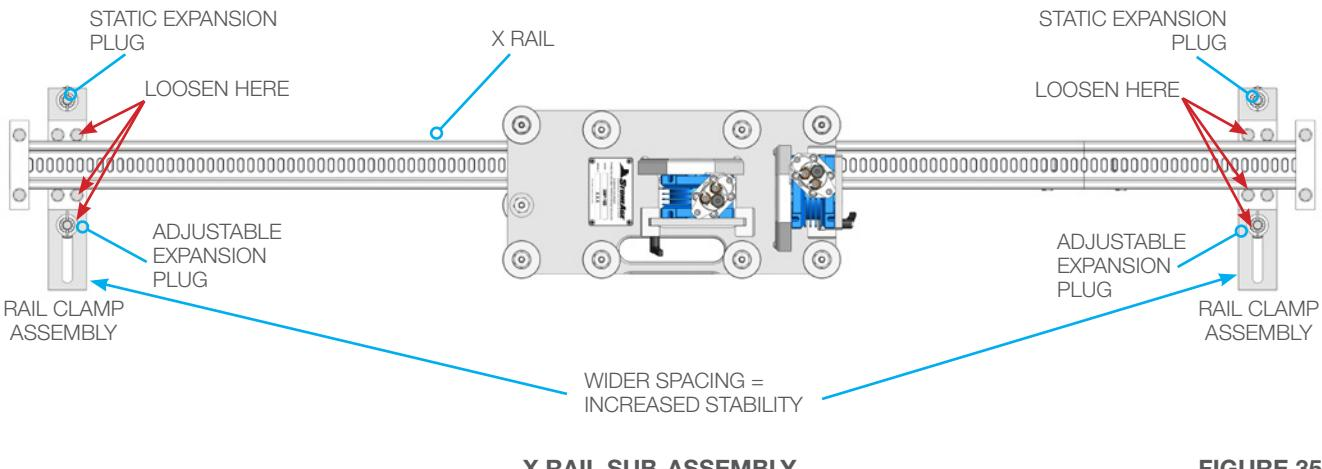

FIGURE 35
1. Loosen the four bolts on both Rail Clamp Assemblies with a 9/16" wrench, so that they are free to slide along the X Rail Sub-assembly but do not come off. (**Figure 35**)
2. Loosen the two Adjustable Expansion Plugs on the Rail Clamp Assemblies with a 3/4" wrench. (**Figure 35**)